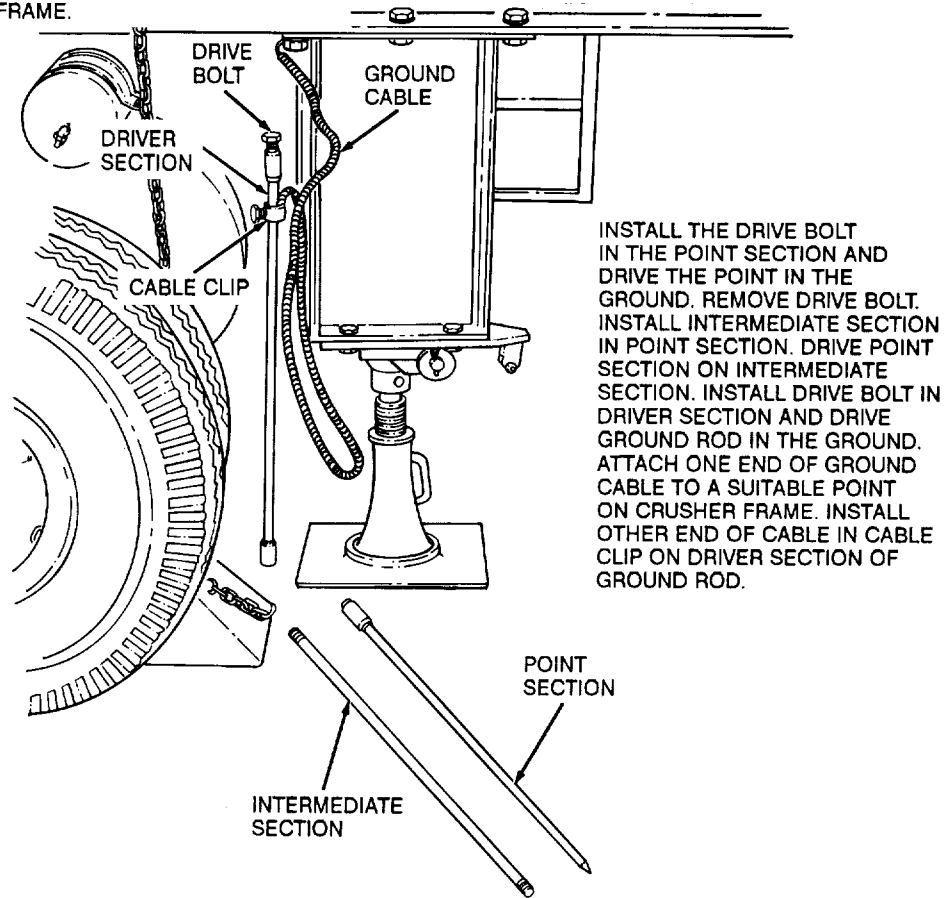

Figure 15. Ground rod assembly, installation.
- m. Remove the ground rod assemblies from the toolbox (fig. 1) and assemble the rod. Attach one end of the ground cable to the clip on the rod, and the other end of the ground cable securely to a point on the jaw crusher frame (fig. 15).
- b. Remove the ground rod assembly (fig. 15) and stow in the toolbox (fig. 1).